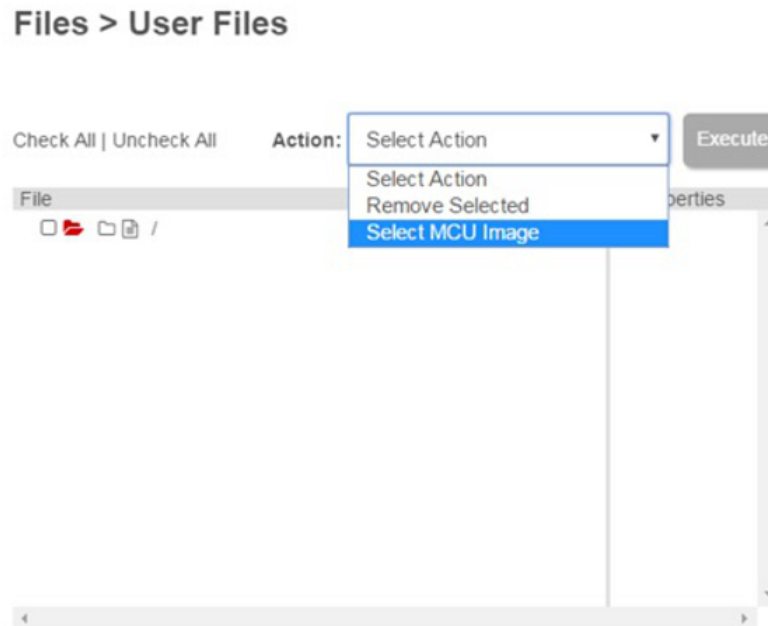

Figure 3-16. Select MCU Image
2. Select Select MCU Image from the drop-down menu, as shown in Figure 3-16.